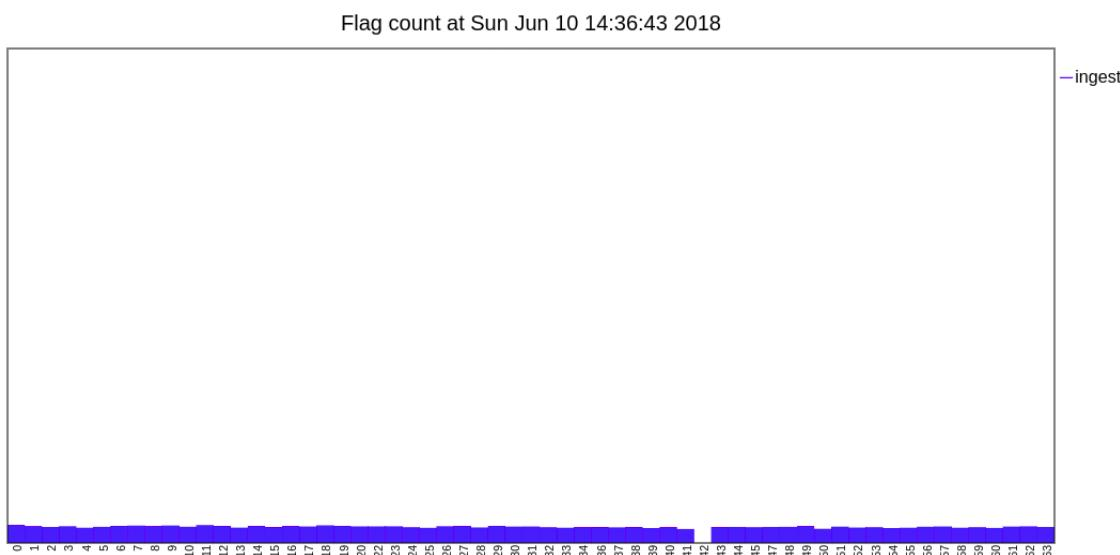

Figure 8.18: SDP flag count plot with one F-host disabled
- You will also notice no ingest data on the signal display as shown in **Figure 8.18**. Type `flagcount` to display the figure below.